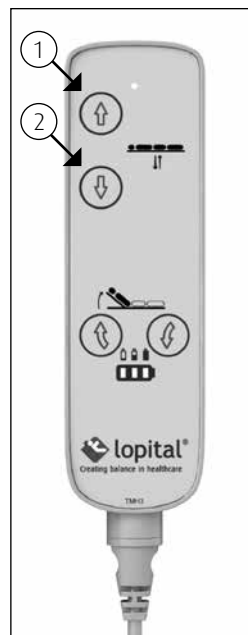

Figure 8 Hand control.
- If the client is lying on the shower trolley, first put the brake on the wheels and then move the trolley upwards (1) (See figure 8).
- Move the trolley upwards by pressing the button that shows an 'up' arrow. The trolley will then immediately move upwards (See figure 8).
- Move the trolley downwards by pressing the button that shows a 'down' arrow. the trolley will immediately move downwards (2) (See figure 8).